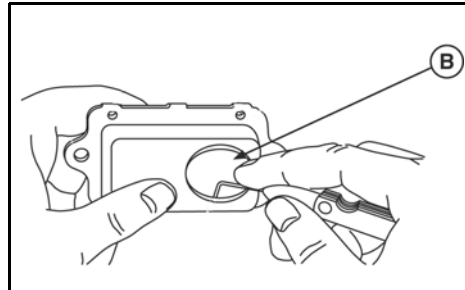

Figure 8
2. Inspect the oil drain-back hole (B, Figure 8). Insert a fine wire to ensure the opening is not plugged.